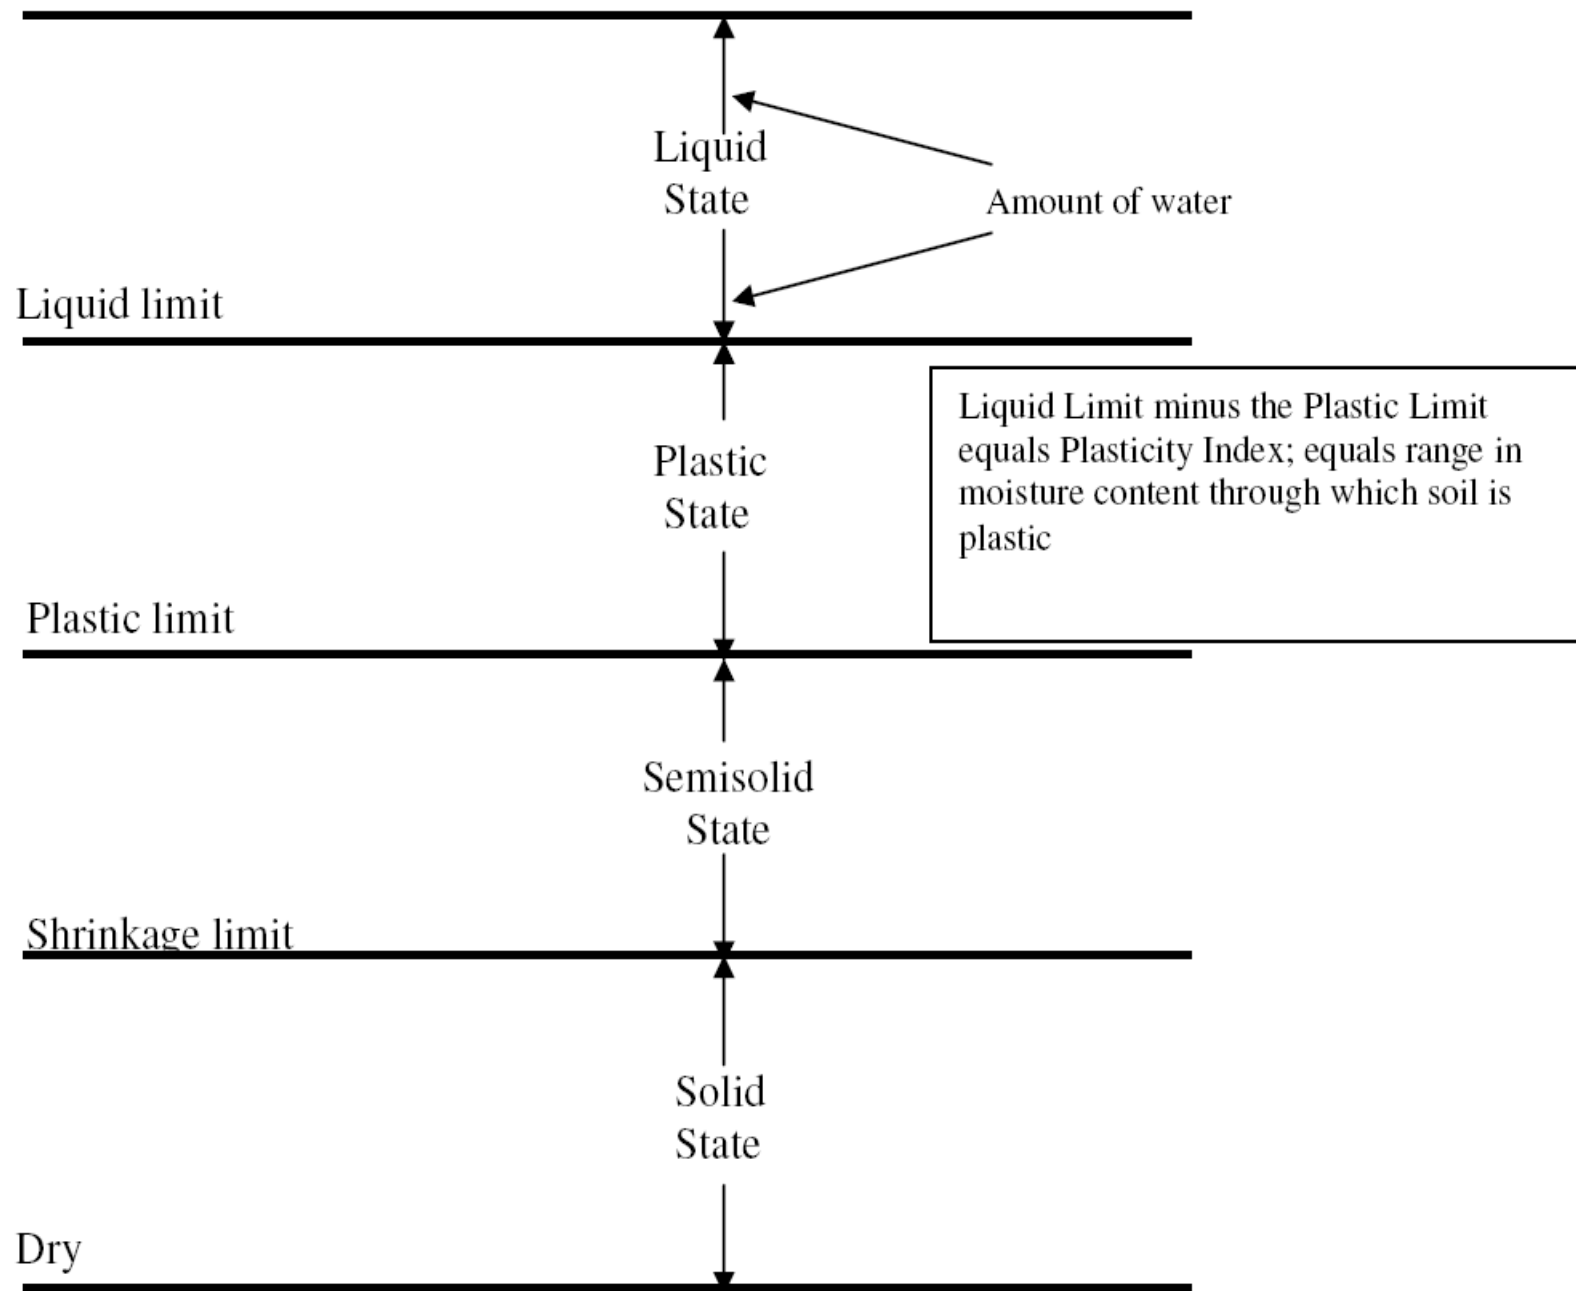

Figure 1
- Figure 1 graphically demonstrates these differences as water is added or removed. Refer to the glossary provided in the back of this manual for definitions of the terms in Figure 1.